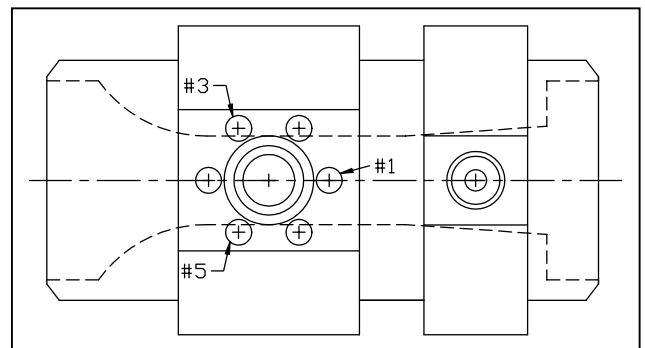

Figure 8. Retaining Stud Locations
- Loosen and remove retaining nuts and washers from retaining studs (see Figure 8).
- Apply a thread-locking product (e.g. Loctite 262) to the first 0.75-inch of stud. Next, install the stud in the threaded hole closest to the exit of the meter, hole #1 in Figure 8. (The inlet is
- Repeat this process in holes #3 and #5 in Figure 8.